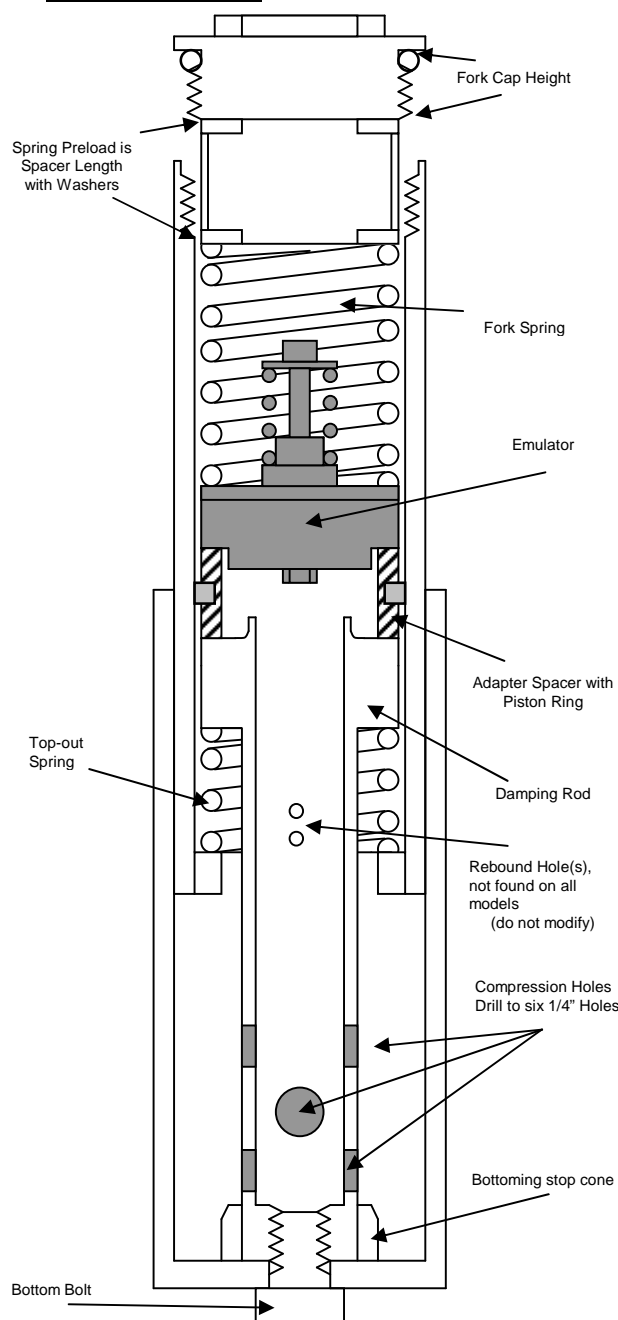

Figure 1
- 2 Drill the existing compression holes in the damping rod to 1/4 inch (6 mm) so you end up with Six holes (3 sets of 2 holes) (figure 1).** When drilling new holes, space them axially (lengthwise) at 10 mm (7/16") increments. Each set of two holes must be perpendicular to the last set so as not to weaken the rod (figure 1). After drilling, chamfer and deburr the compression holes, inside and out. Do not add or enlarge the rebound holes and leave their edges sharp. You will need to cut down the roll pin in the center of the damping rod, see page 2 for details.
- a. Drop the Emulator down the tube. It sits on top of the adapter spacer & damping rod with the Emulator Valve Spring facing up and is held in place with the main fork spring. Refer to figure 1. Visually check to make sure the Emulator is sitting squarely on top of the damping rod.
- c. Set the fork cap on the washer and determine the preload by measuring from the top of the fork tube to the sealing lip on the fork cap (see figure 1). This is a direct measurement of fork spring preload. Shorten the spring spacer tube to achieve the proper preload.